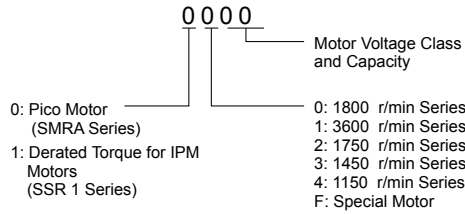

Figure 5.44 PM Motor Code
*Figure 5.44* explains the motor code setting.